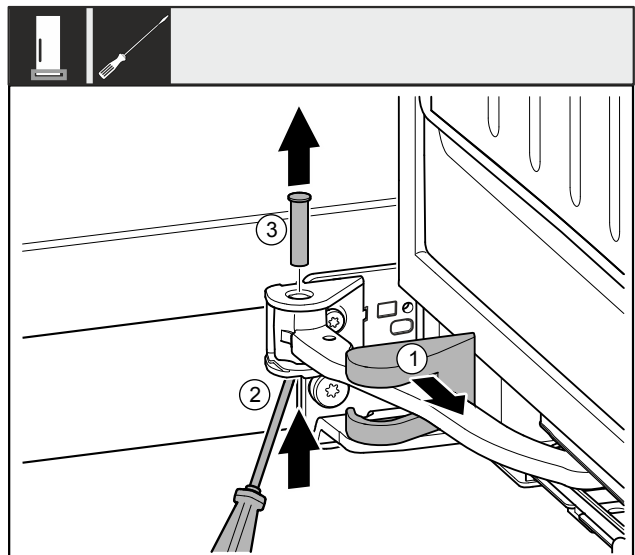

Fig. 10
- ▶ Remove the swap bearing block cover Fig. 10 (1) and slide along the joint.
- ▶ Use a screwdriver to lift the bolt Fig. 10 (2) from below.
- ▶ Pull out the bolt Fig. 10 (3) from above.